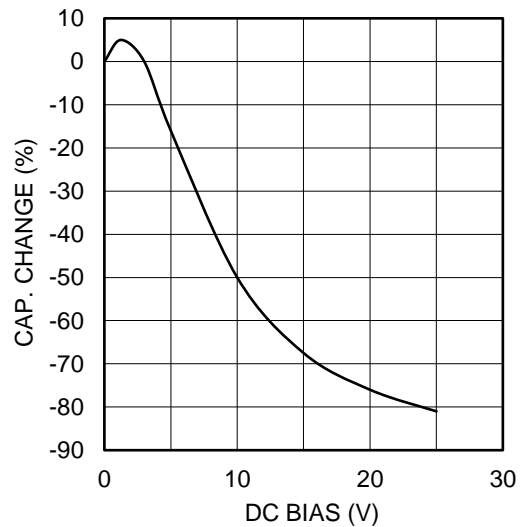

Figure 6. DC bias characteristic
Next, calculate output ripple voltage by substituting each parameter to equation (7). At this point consideration for DC bias characteristic of ceramic capacitor is necessary. In this example, because the voltage impressed to capacitor is 3.3V, 2% will be reduced from rating capacitance value as in Figure 6. Also, ESR of ceramic capacitor is 2mΩ and ESL is 0.4nH.